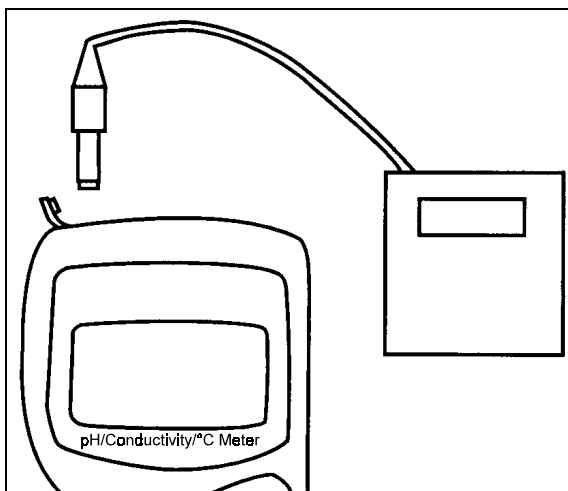

Figure 5 - Using AC adapter (only for Standard PC 10 meter)
1. Insert the AC jack as shown in Figure 5 below.